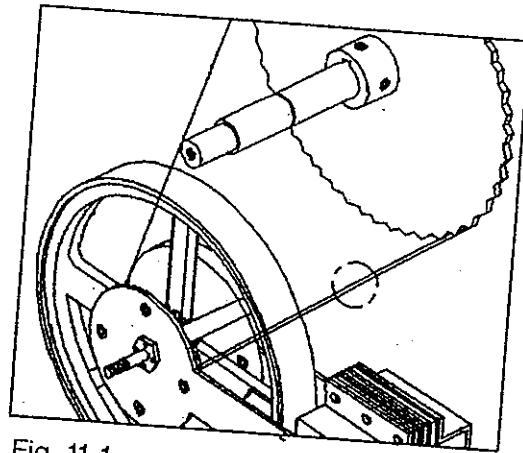

Fig. 11-1
10. Find the chain connector, use a clip to remove the chain connector. Then remove the disconnected chain (see Fig. 11-1 to 11-3).